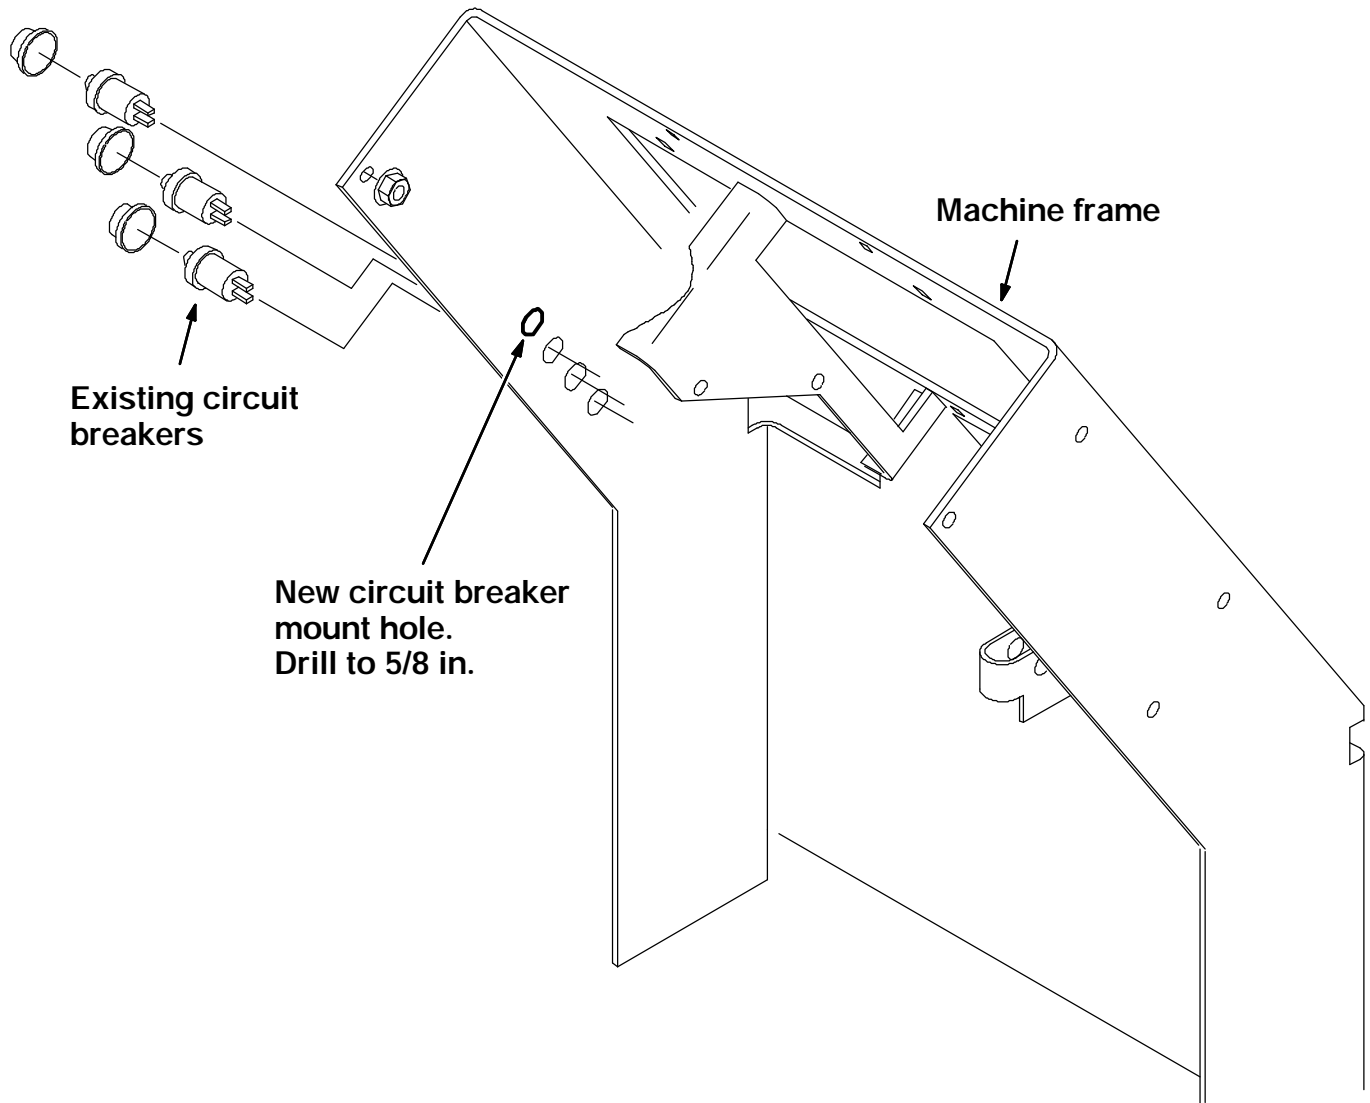

FIG. 5 - New Circuit Breaker Hole Location
8. Open the front cover and locate the circuit breakers on the side of the machine frame near the vacuum fans. (Refer to Fig. 5)
10. Mark and center punch a spot above the existing circuit breakers. Use a 5/8 inch hole saw or 5/8 inch drill bit to drill a hole for the new circuit breaker (12). (Refer to Fig. 5)
11. Install the new circuit breaker (12), lock ring, and boot (13) in the new hole. (Refer to Fig. 5)